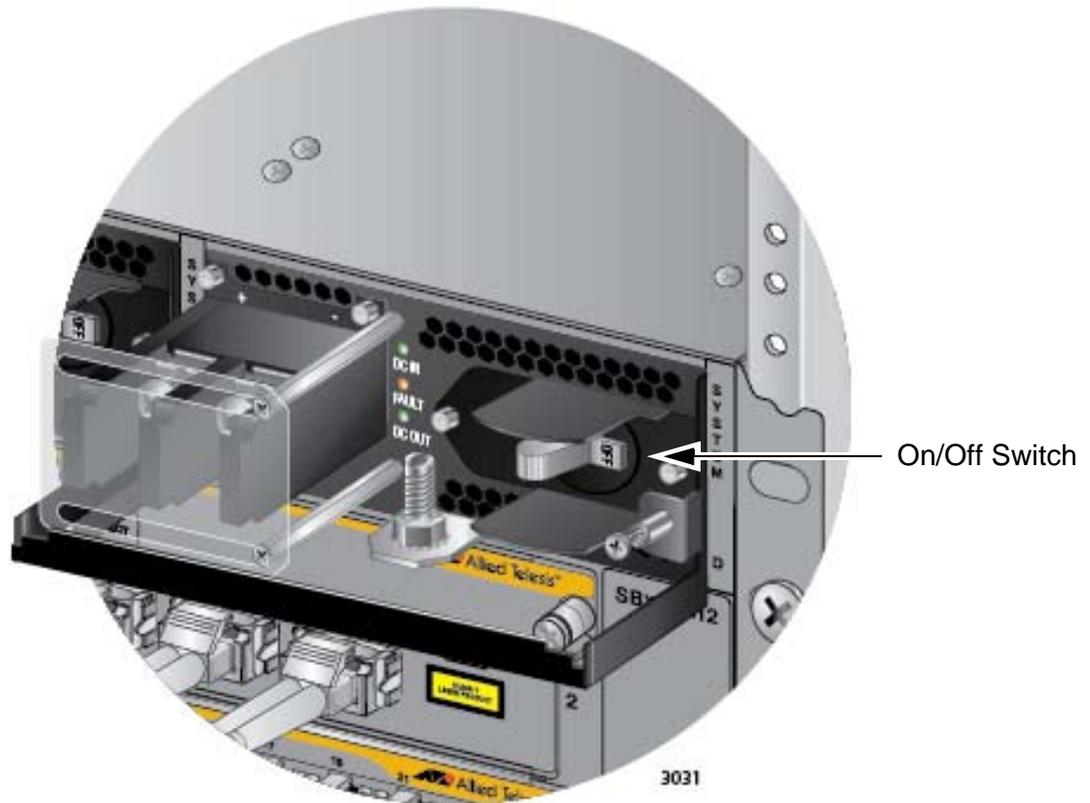

Figure 123. On/Off Switch on the AT-SBxPWRSYS1 DC Power Supply
3. Verify that the On/Off switch on the AT-SBxPWRSYS1 DC Power Supply is in the Off position. Refer to Figure 123 on page 191.
13. Turn the On/Off switch on the power supply to the On position. See Figure 123 on page 191.
2. Verify that the On/Off switch on the AT-SBxPWSYS1 DC Power Supply is in the Off position. Refer to Figure 123 on page 191.
12. Turn the On/Off switch on the power supply to the On position. See Figure 123 on page 191.
11. Turn the On/Off switch on the power supply to the On position. See Figure 123 on page 191.